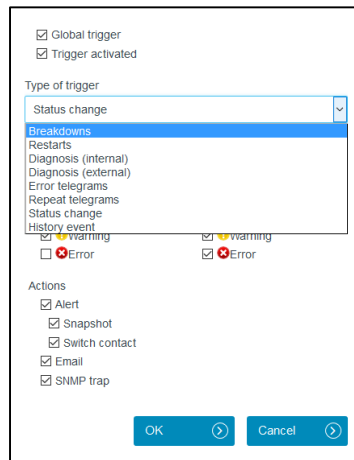

Figure 33: Trigger types
The menu presented in Figure 33 is available for specifying the trigger type.
The settings for the content of the 'diagnostics snapshot' are configured in this sub-menu (see item 4.2 Alarms). In the default setting, all diagnostics telegrams of all devices are saved in the 'diagnostics snapshot' for later evaluation. The function can be global or specified for individual devices by adding address-related entries (see Figure 33: the diagnostics for address 7 have been deselected).